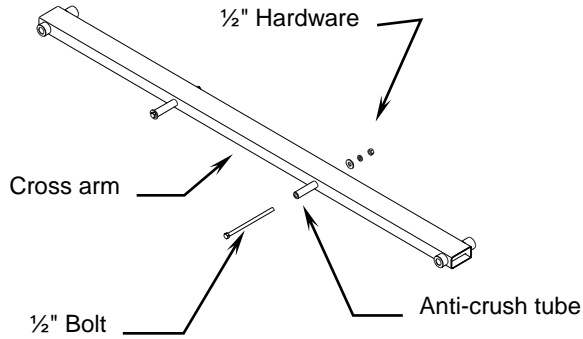
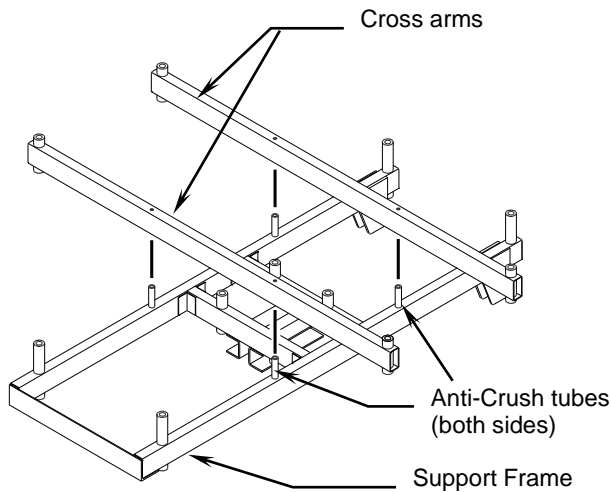

Figure 9: Cross Arm Detail
Figure 10: Cross Arm Support Frame Assembly
4. Locate the cross arms (item 12) and remove the 1/2" hardware and anti-crush tubes. See Figure 9, Cross Arm Detail.
5. Lay the support frame (item 13) on a safe flat surface, being careful not to damage the tube spacers.
6. Insert the anti-crush tubes into the four holes on the back of the frame as shown in Figure 10, Cross Arm Support Frame Assembly.